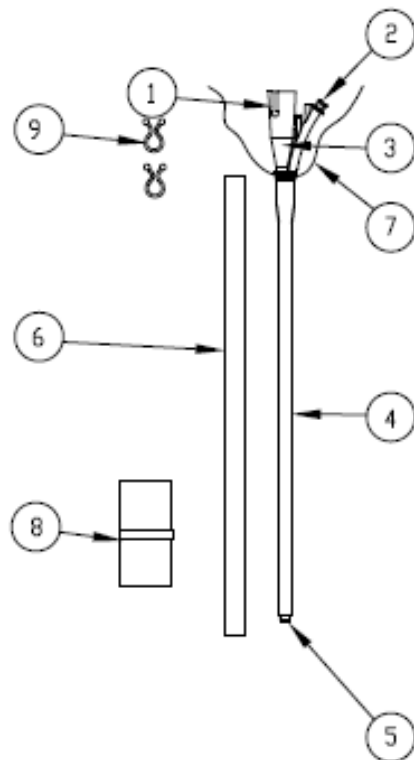

Figure 3-4: BVX-0 Slide-On® EndoSheath® Technology
- The **BVX-0 Slide-On® EndoSheath® Technology** (Figure 3-4 on page 16) has no working channel and does not support the use of accessory instruments.